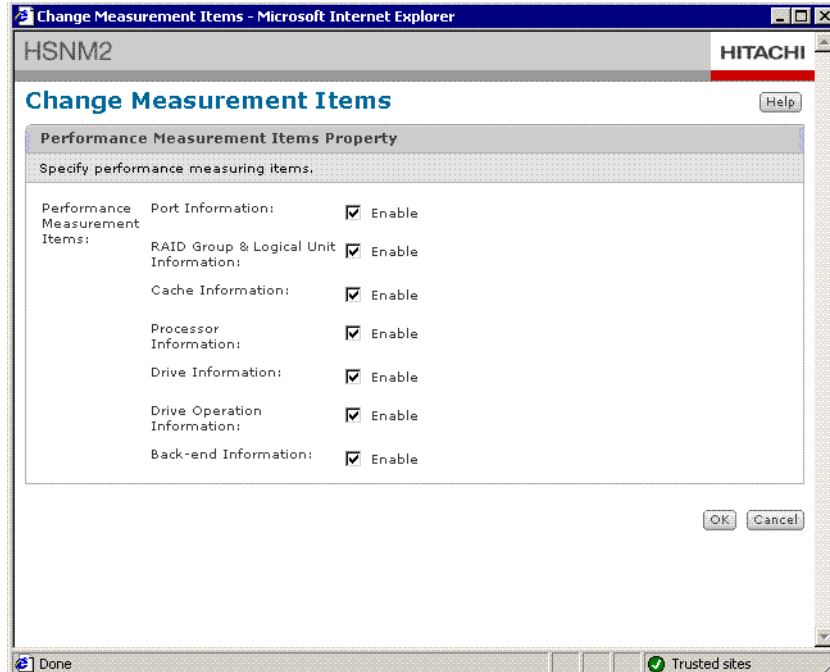

Figure 9-10: Change Measurement Items dialog box describes each of the performance statistics.
- Click on the Change Measurement Name Button. The Change Measurement Items dialog box displays with six performance statistics as shown in Figure 9-10 on page 9-35.